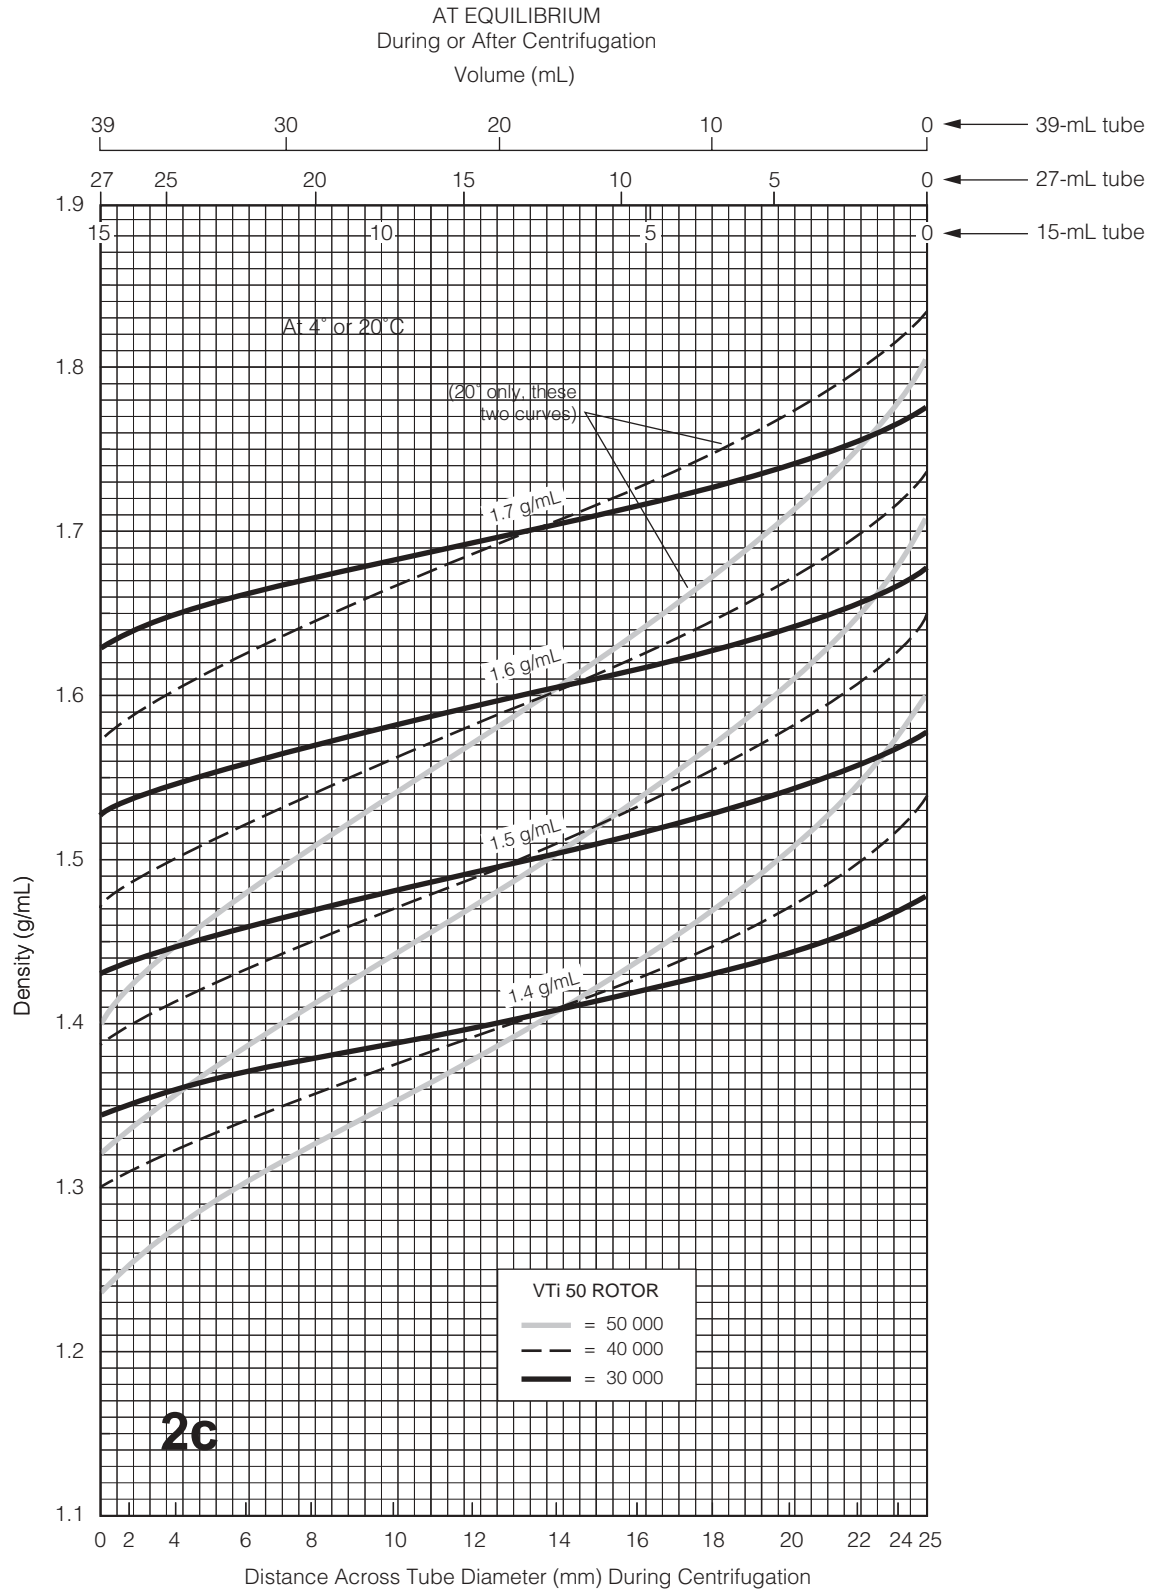

Figure 2c. CsCl Gradients for Lower Densities. Densities used to generate curves are printed along the curves.
Rotor speed is used to control the slope of a CsCl density gradient, and must be limited so that CsCl precipitation is avoided. Figure 2a gives the CsCl concentration-limiting curves for full tubes. The reference curves in Figure 2b show equilibrium gradients that result from centrifugation using the maximum densities allowed by Figure 2a. Each curve in Figure 2b is within the density limits allowed for the VTi 50 rotor: each curve was generated for a single run speed using the maximum allowable homogeneous CsCl densities that avoid precipitation at that speed. Figure 2c gives the gradients that result from centrifugation using lower-than-maximum-allowable CsCl concentrations. These reduced-density curves can be used to make particles band more towards the middle of a tube, where volume
1. In Figure 2c, sketch in a horizontal line corresponding to each particle's buoyant density.
In this case the 1.6-g/mL 30 000-rpm curves in Figure 2c give the best separation. These curves intersect the particle buoyant densities in such a way that particles band about 2 mm apart at equilibrium during centrifugation (lower axis). Bands are located in the middle of the tube.